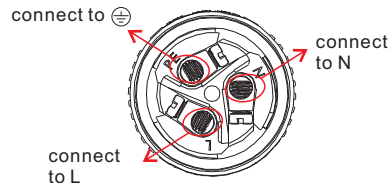

Figure 4.8 EPM1-5G connection
- For EPM1-5G installation connect L, N, PE to pin L, N, ⊕ (see figure 4.8).